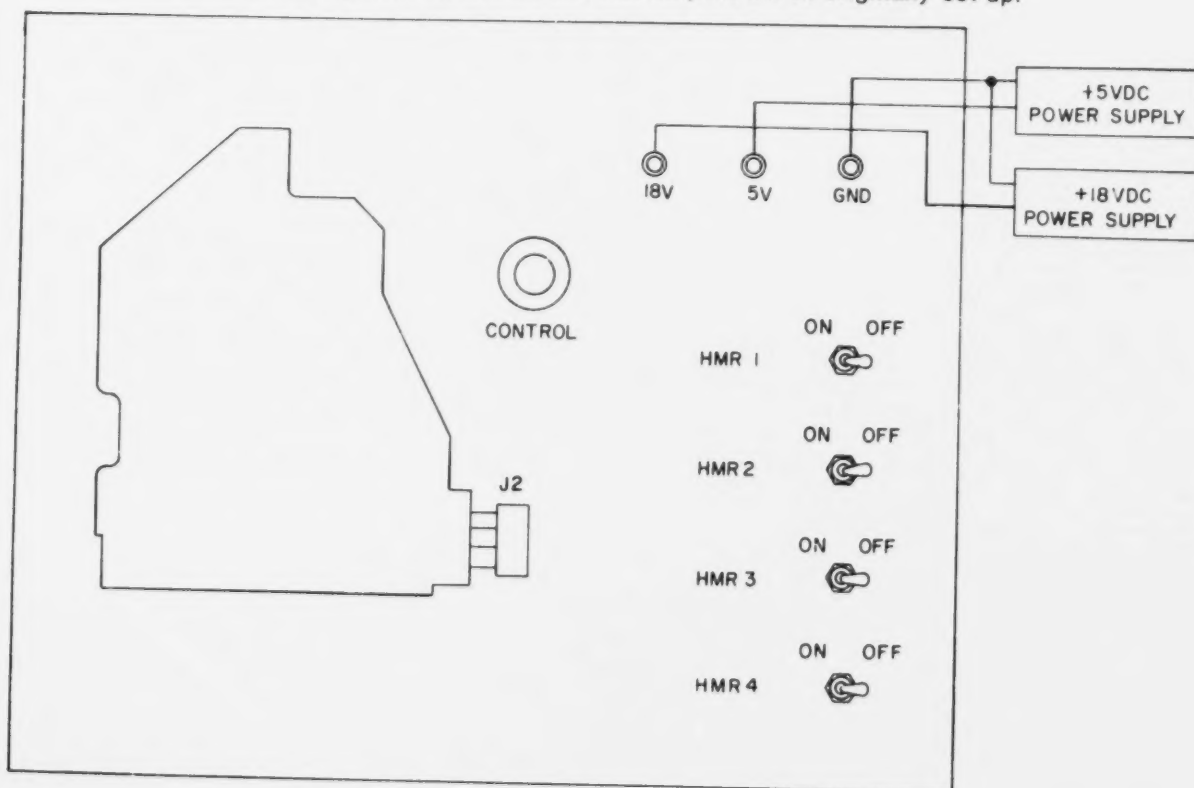

Figure 6-16. HAMMER MODULE TEST SETUP
c. Test Setup Procedure for Hammer Module (fig. 6-16).